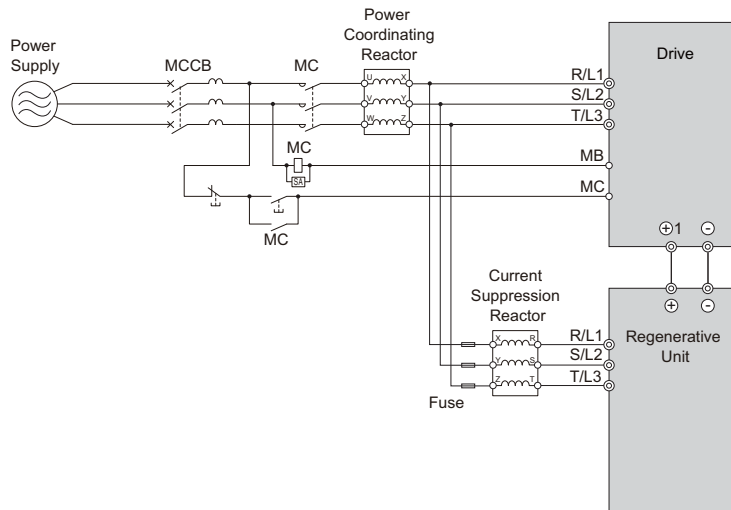

Figure 7.2 Power Supply Interrupt Wiring (Example)
- If several drives are connected to one MCCB or RCD that is shared with other equipment, use a sequence that shuts the power OFF when errors are output by using magnetic contactor (MC) as shown in Figure 7.2.